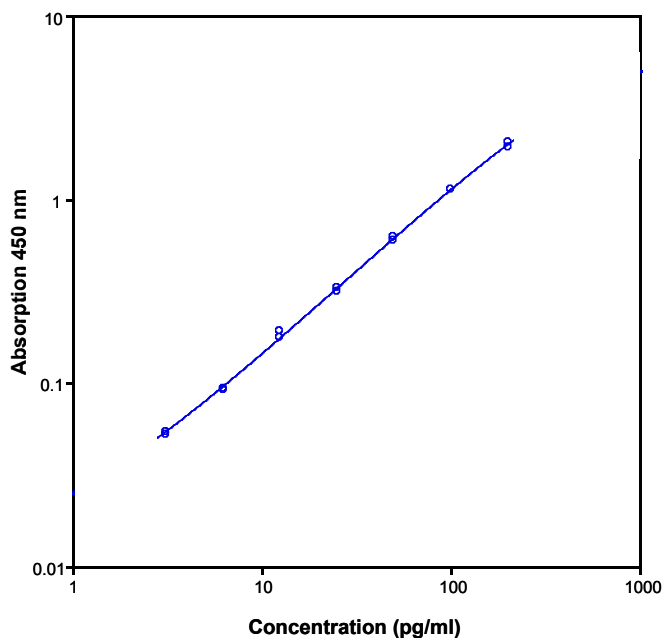

Fig. 9 Representative standard curve for human LIF ELISA. Human LIF was diluted in serial 2-fold steps in Sample Diluent.
- A representative standard curve is shown in Figure 9.